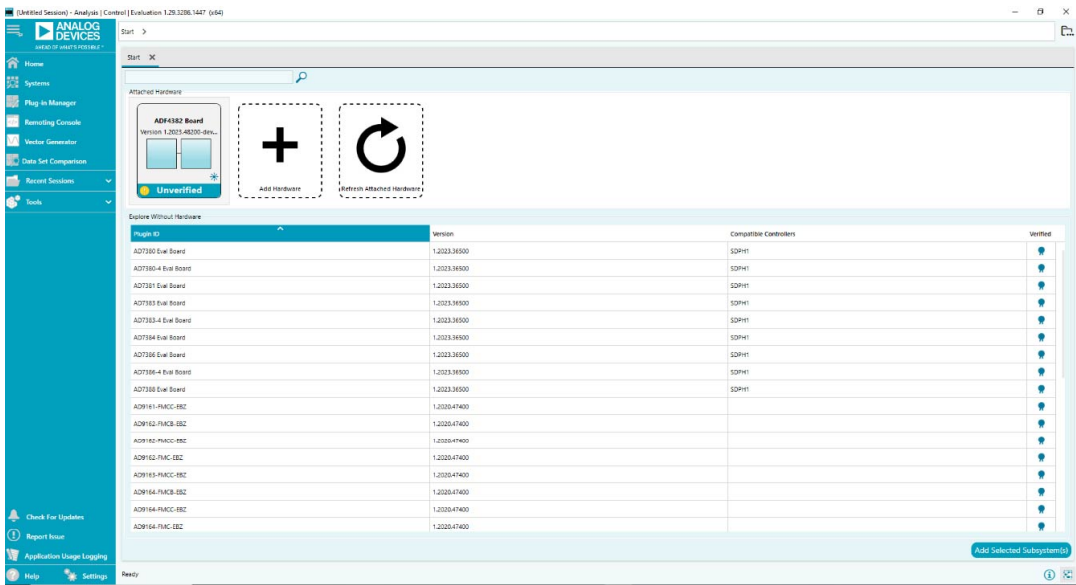

Figure 3. ACE Main Window, Attached Hardware (ADF4382A Evaluation Board)
- 1. Launch the ACE application. With the **SDP-S** controller board connected to the EV-ADF4382ASD2Z, the **Attached Hardware** section appears in the GUI, as shown in **Figure 3**.